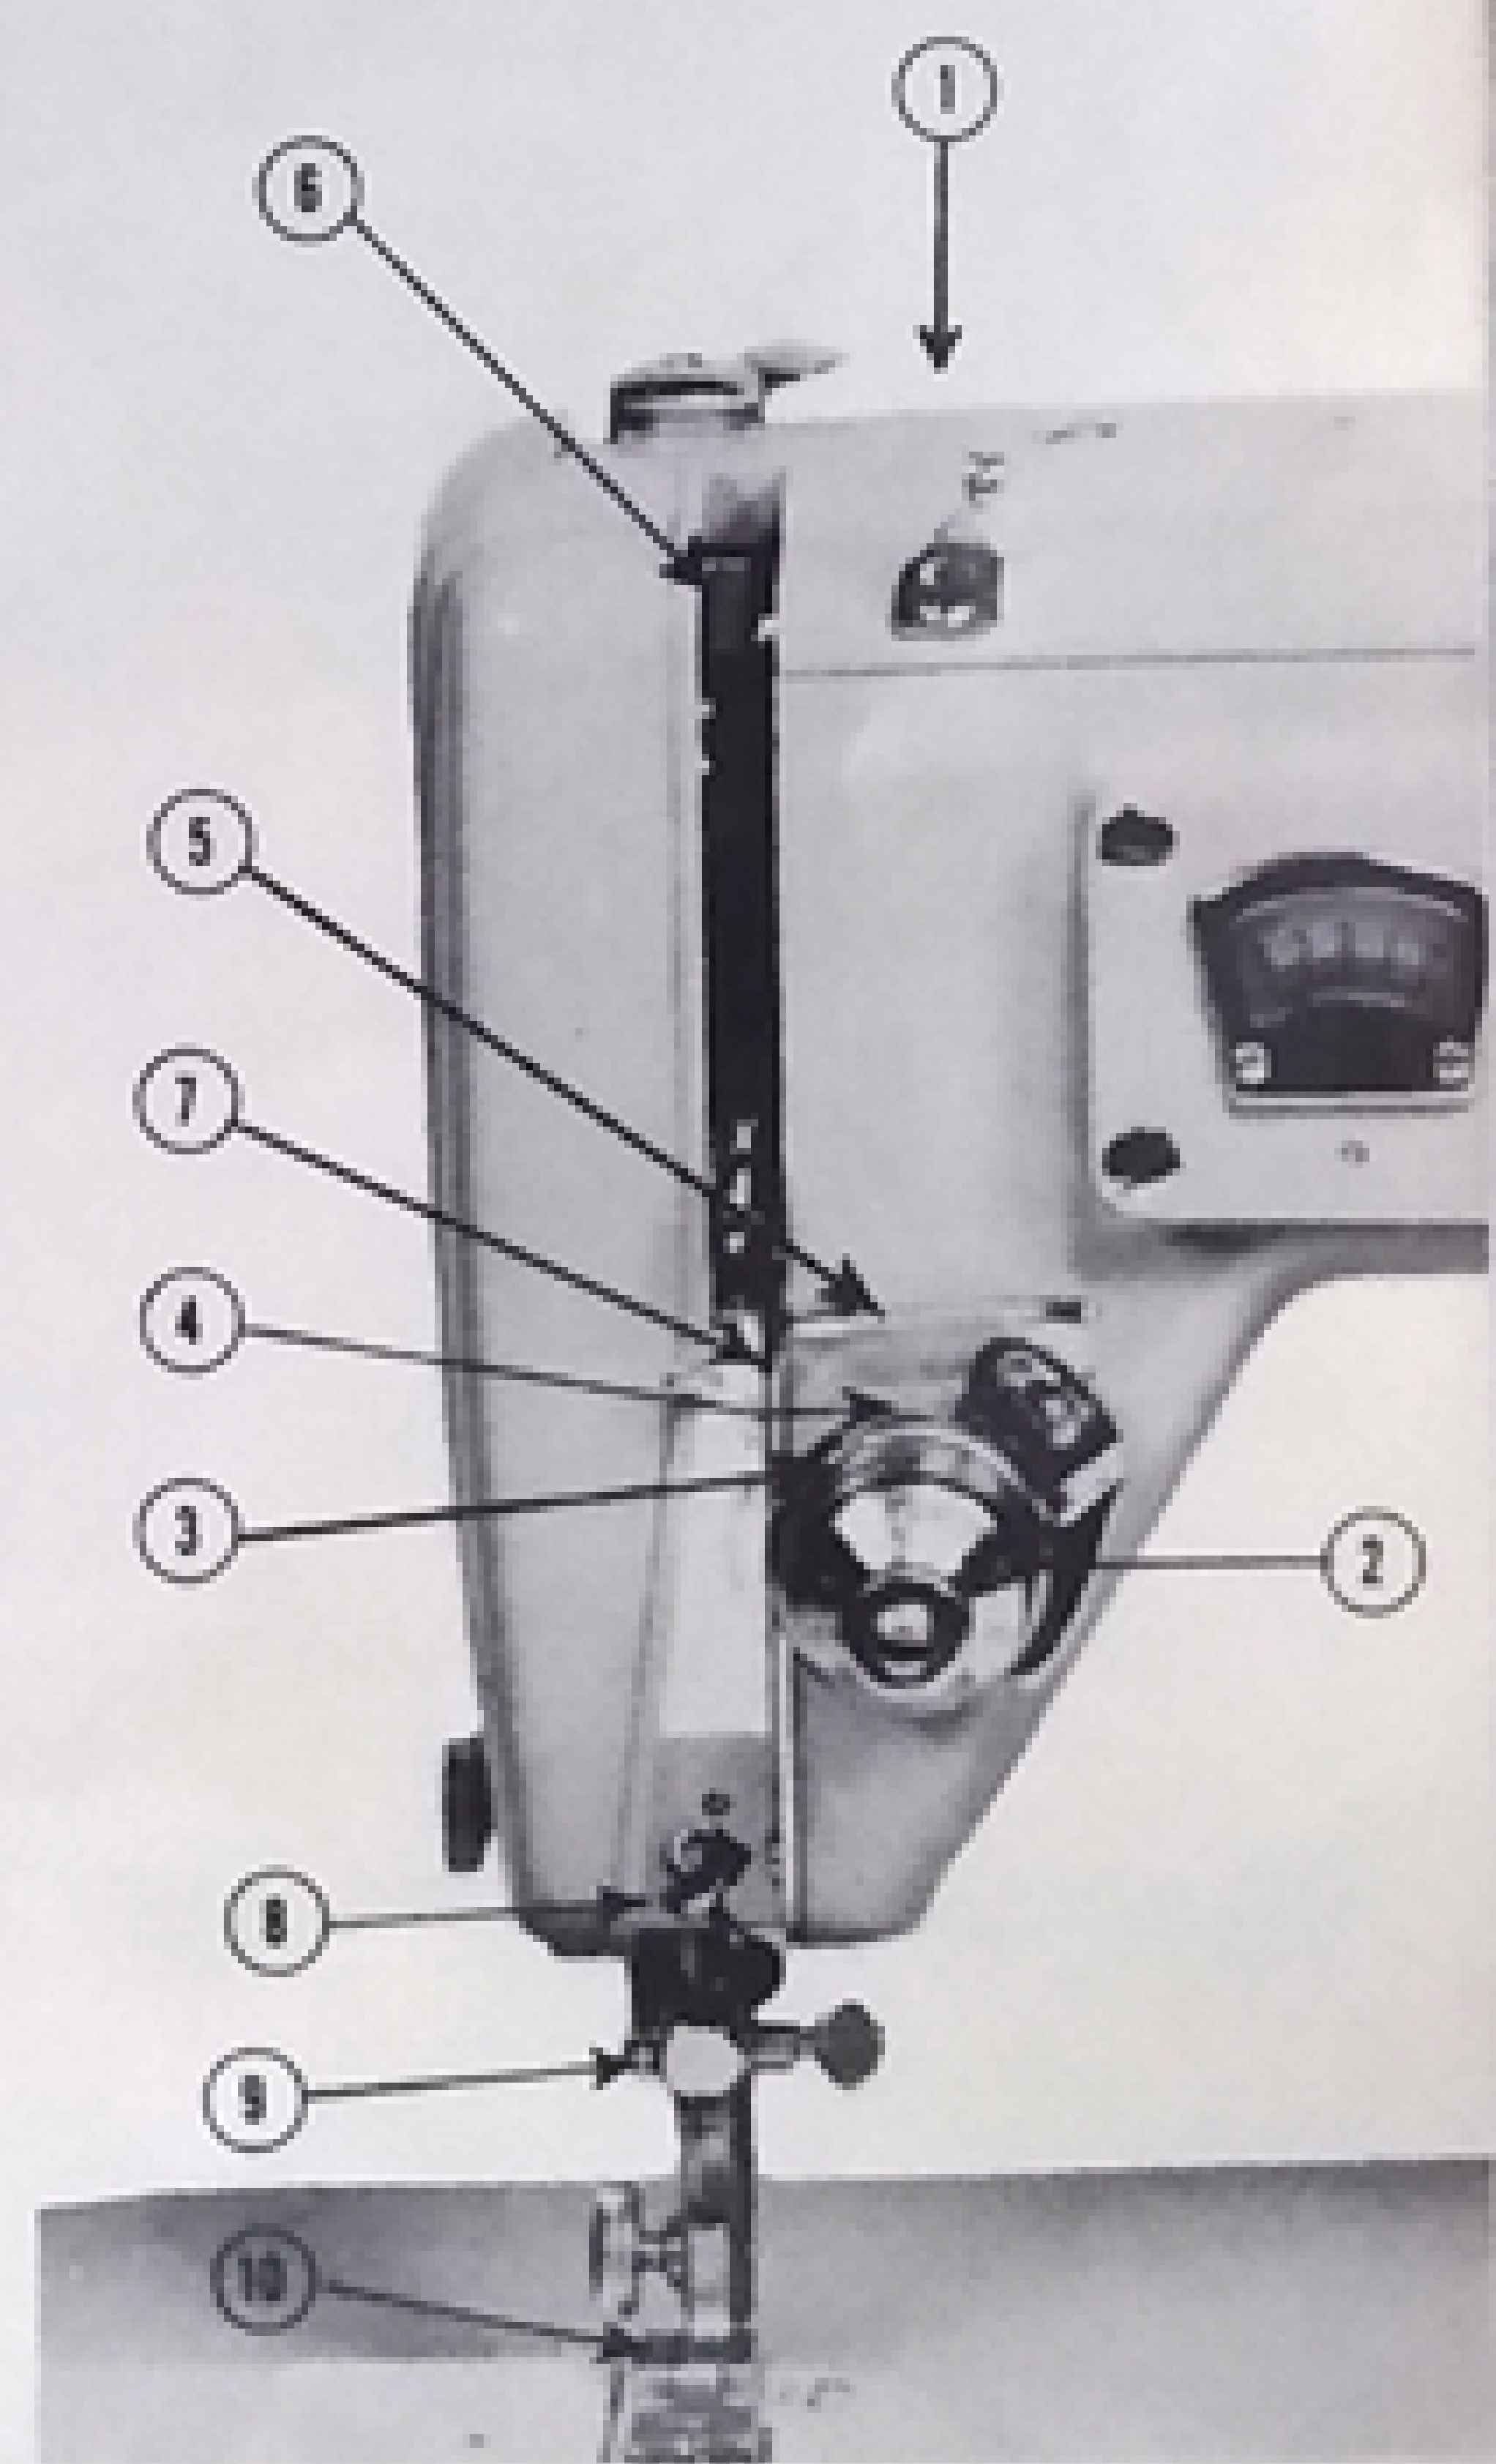

Fig. 9
1. Turn the balance wheel (24) by hand towards you until the take-up lever (6) is at its highest point, Fig. 9.
2. Place the spool of thread on the spool pin (29) on the top of the machine and pass the thread through the upper guide (1) and down between the tension discs (2) from the back on the right hand side, Fig. 9.
3. Now bring the thread up and under the thread check spring (3) raising it (the check spring) so that the thread will fall into the hook shaped guide (4).
4. Carry the thread under the thread guard bar (5) from **right to left** and then up to and into the eye of the thread take-up lever (6) from **right to left** and down through the thread guides (7), (8) and (9).
5. Now thread the needle (10) from the **left to right** and draw the thread out about 6 inches.